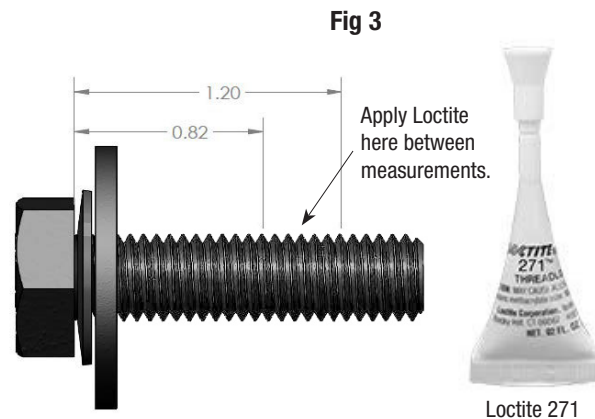

Fig 3
- 4) Apply three drops of Loctite adhesive around the Bolt threads between .82" and 1.2". **Fig 3**
- 4) Apply three drops of Loctite adhesive around the (4) Bolt threads between .82" and 1.2". **Fig 3**